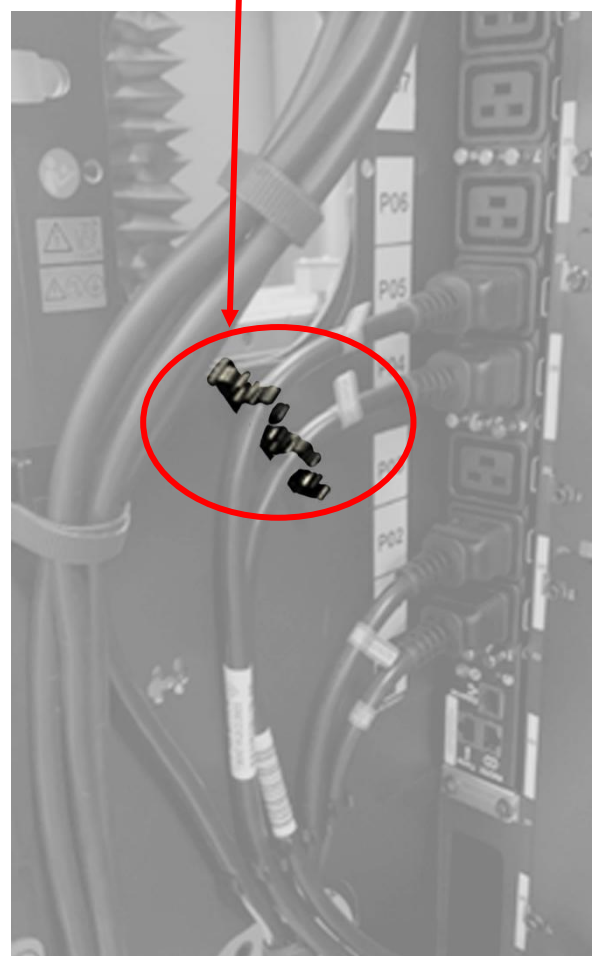

Figure 12: Frame Side Clip for Power Jumpers
- Frame Side Clip for Power Jumpers (Figure 12)